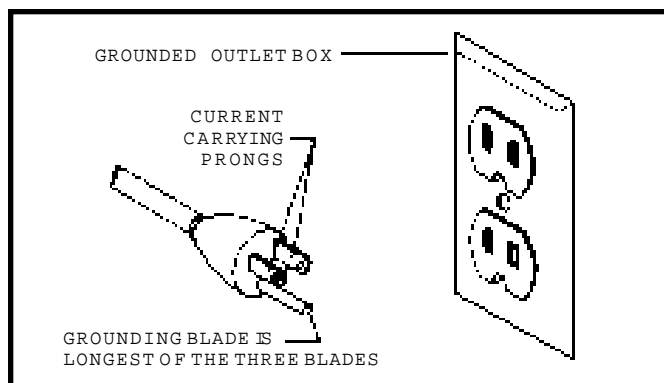

Fig. 73
Use only 3-wire extension cords that have 3-prong grounding type plugs and 3-hole receptacles that accept the tool s plug, as shown in Fig. 73.
1. This tool must be grounded while in use to protect the operator from electric shock. The motor recommended for use with your saw is shipped wired for 120 volts and is intended for use on a circuit that has an outlet which looks like the one illustrated in Fig. 73. The tool is supplied with a three prong grounding type plug which is also illustrated in Fig. 73.